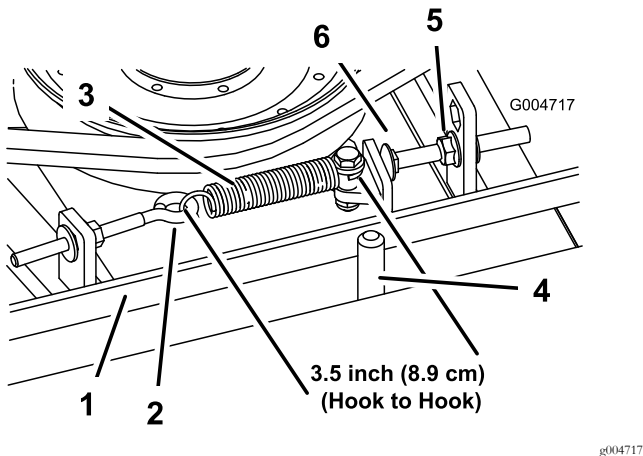

Figure 70
When properly tensioned, the extension spring (hook to hook) measurement should be approximately $8.9 \text{ cm} \pm .63 \text{ cm}$ ($3.50 \pm .25 \text{ inch}$) (inside). Once the correct spring tension is attained, adjust the stop bolt (carriage bolt) until there is approximately $.32 \text{ cm} \pm .152/.000 \text{ cm}$ ($.125 \pm .060/-0.000 \text{ inch}$) clearance between the head of the bolt and the idler arm (Figure 70).
Note: Make sure the belt is positioned on the spring side of the belt guide (Figure 70).
2. Loosen the eye bolt allowing the removal of the extension spring (Figure 70).
3. Loosen the flange nut securing the stop bolt to the mounting tab. Back off the nut enough to allow the idler arm to pass by the stop bolt (Figure 70). Move the idler pulley away from the belt to release belt tension.
8. Reconnect the extension spring (Figure 70) to the eye bolt and tension the belt as follows: